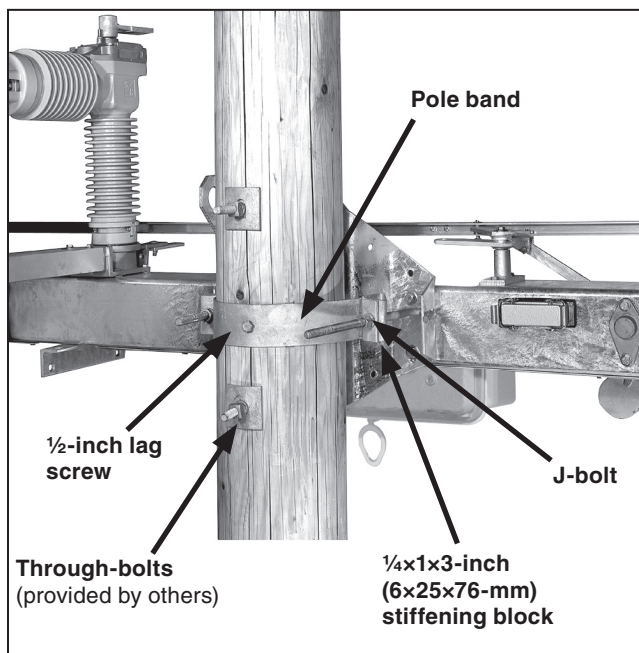

Figure 10. Securing pole band to mounting bracket (upright mounting configuration shown).
STEP 7. Secure the pole band (furnished) to the switch mounting bracket using the J-bolts furnished. Two $\frac{1}{4} \times 1 \times 3$ -inch (6×25×76-mm) stiffening blocks are furnished to be used behind the pole-band flanges and underneath the J-bolt nuts. Lag the pole band to the backside of the pole through the hole in the center of the band using one of three $\frac{1}{2}$ -inch diameter lag screws provided. See Figure 10. Then, lag the switch mounting bracket to the pole using the two remaining $\frac{1}{2}$ -inch diameter lag screws. See Figure 10.